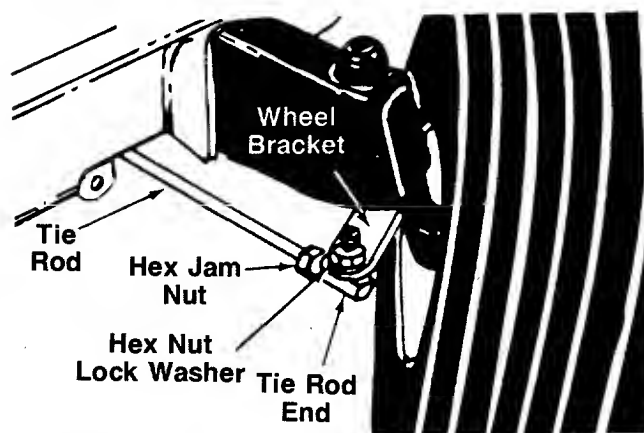

FIGURE 15.
1. Remove the hex nut and lock washer, and drop the tie rod end from the wheel bracket. See figure 15.